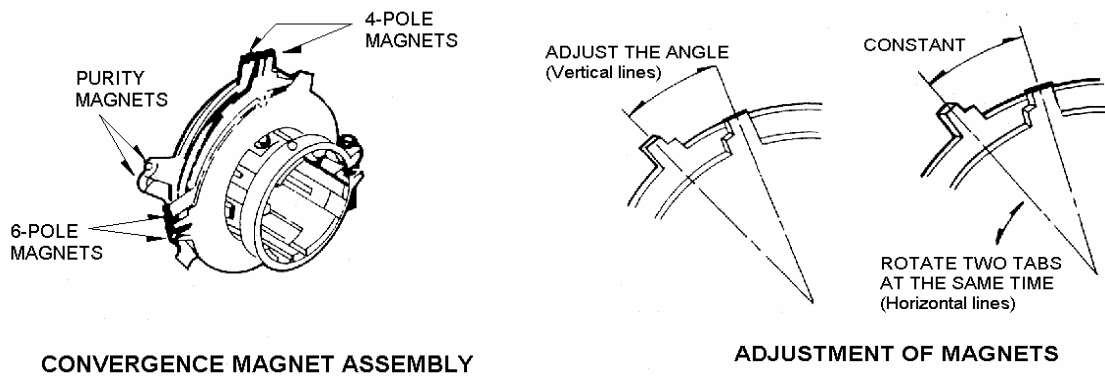

FIG 2
6. Rotate and spread the tabs of the purity magnet(See figure 2) around the neck of the picture tube until the green belt is in the center of the screen. At the same time, center the raster vertically.